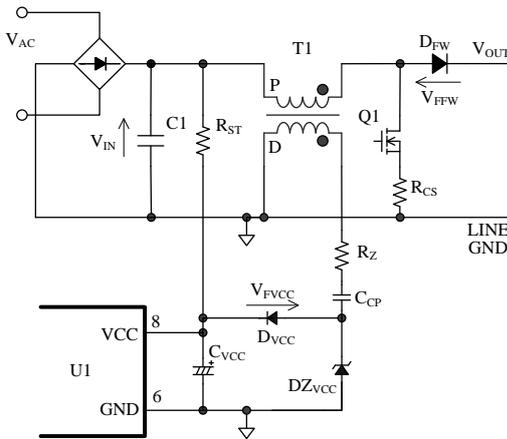

Figure 9-2. VCC Pin Peripheral Circuit (Power supply from auxiliary winding)
When power supply of VCC pin is supplied from auxiliary winding as shown in Figure 9-2, the condition of N_D/N_P is set to larger rate of Equation (8) or Equation (9).